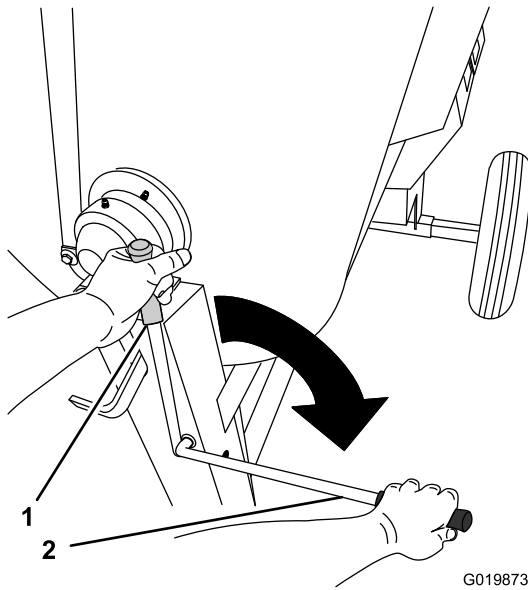

Figure 31
- Move the clutch lever to the OFF position (Figure 31).
- Move the clutch lever to the ON position (Figure 31).